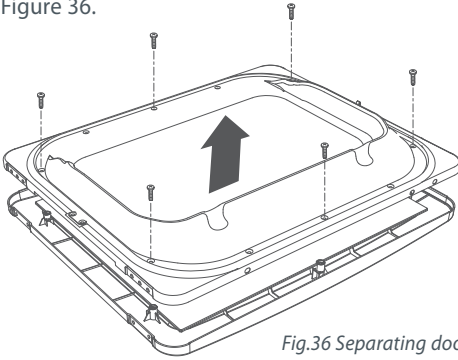

Fig.36 Separating door panel from inside of door
- 6 Separate the door panel from the inside of the door by removing the six screws, as shown in Figure 36.